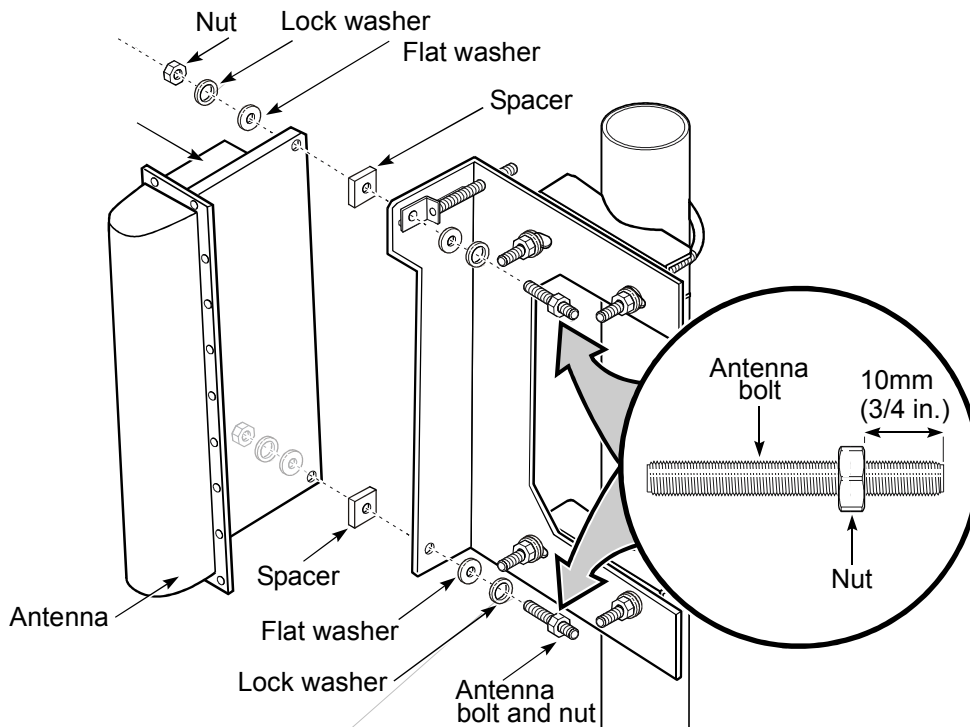

Figure 13 – Connecting the antenna to the mounting plate
2. Connect the antenna to the mounting plate, as shown in *Figure 13*.